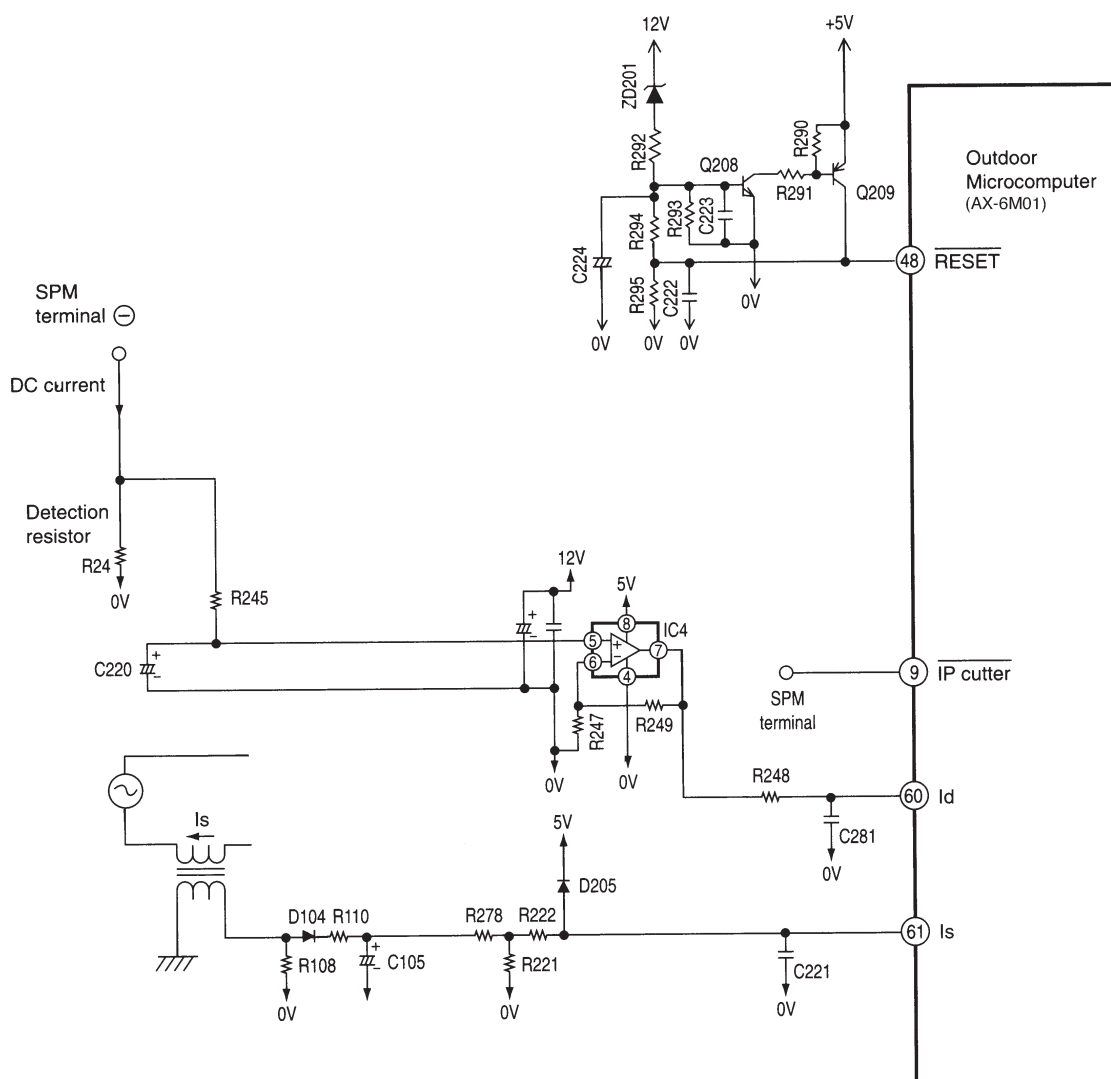

Fig. 7-1 Peripheral circuit of microcomputer (AX-6M01)
- Fig. 7-1 shows the microcomputer and its peripheral circuits.